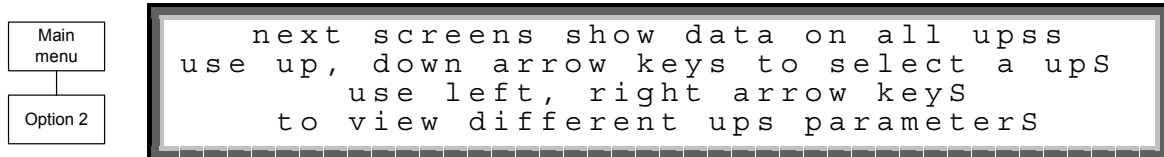

Figure 37: Instructions
1. From the main menu, select option 2 (UPS MODULE) and press the Enter button to display the instructions window shown in Figure 37.